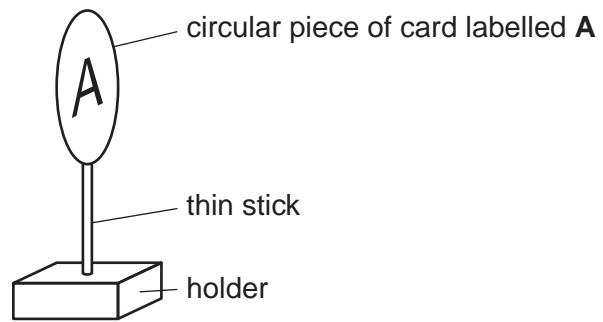

Fig. 4.3
- (v) Circular piece of card, labelled **A**, with diameter 3.0 cm supported on a thin stick held in a suitable holder as shown in Fig. 4.3.